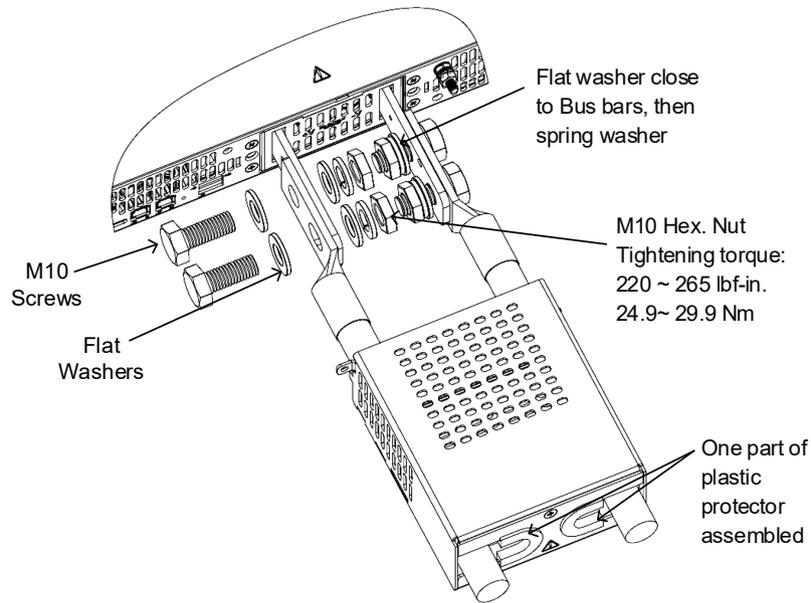

Figure 4-45: Wires Assembly
- Fix the wires to the bus bars as shown in Figure 4-45. Close the output protection assembly with one part of the plastic protector assembled on each side, as shown in Figure 4-45.